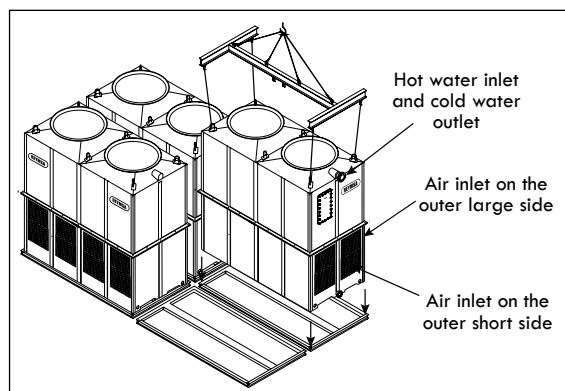
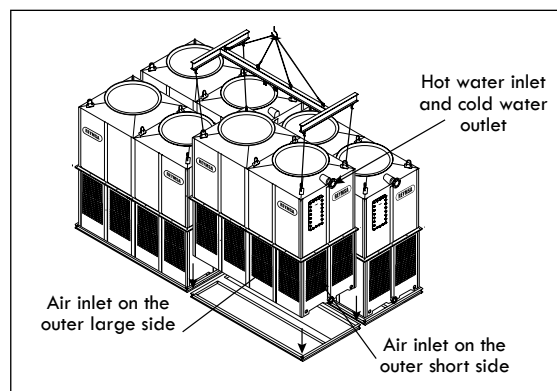

Figure A-77: X-Orientation - Third T2 module lifting and installation (RTM or RTPM Models)
Figure A-78: X-Orientation - Fourth T2 module lifting and installation (RTM or RTPM Models)
- D.** Repeat the previous two steps to install the remaining modules. Pay attention to the correct module arrangement; Each module is labeled alphabetically (module 1: A; module 2: B, etc.) for a proper installation (see Figure A-77 and Figure A-78).